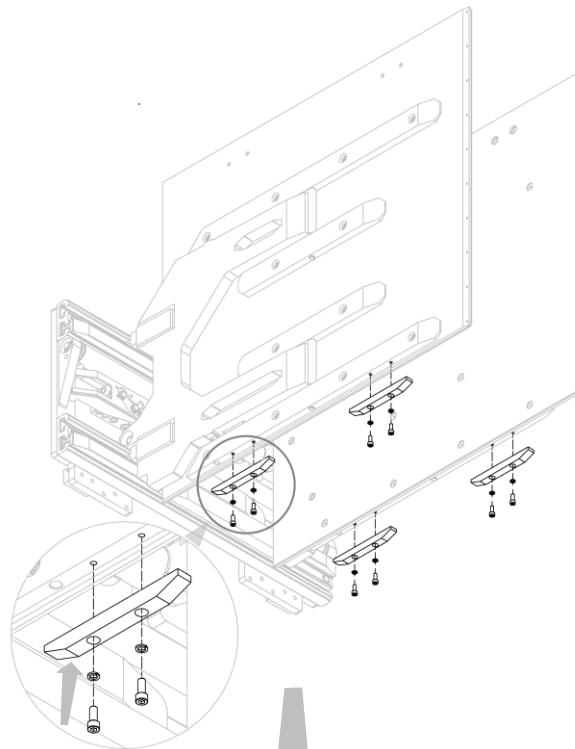
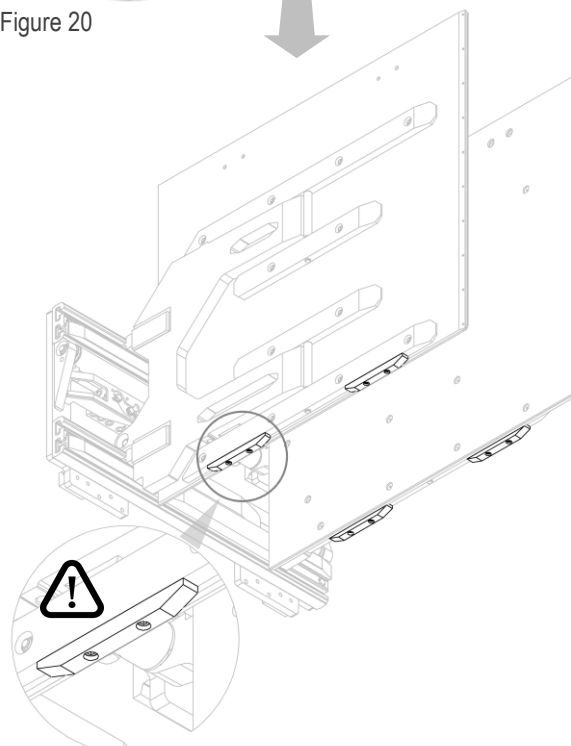

Figure 20
Figure 21
2. Mount the Ertalon lower anti-slip pads by screwing the screws into the respective holes (see *Figure 20* and *Figure 21*).